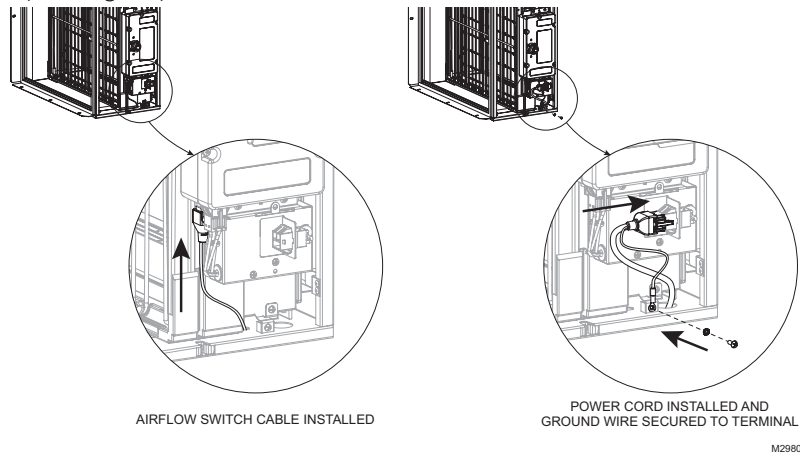

Fig. 11. Airflow switch cable and Power cable installation.
- Plug the power cord and the airflow switch cord into their power supply connectors (see Fig. 11).
- Secure the power cord ground wire to the ground terminal on the cabinet using the screw provided in the ground terminal (see Fig 11).
4. **Models 1620/2020/2520:** Unplug the power cord and flow sensor cable (if connected) from the enhancement module (see Fig. 11 on page 15).
- Models 1620/2020/2520:** Reconnect the power cord and flow sensor cable (see Fig. 11 on page 15).